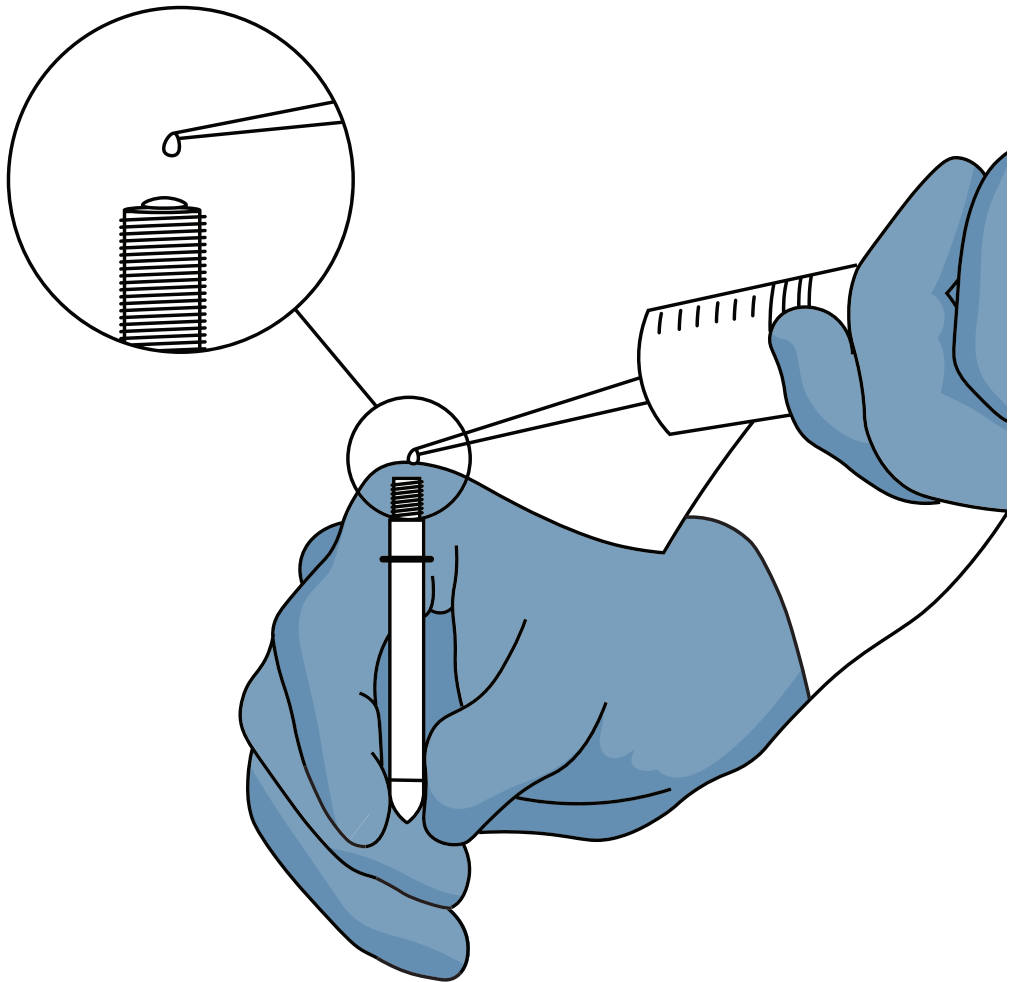

Figure 39 Water lens
- If needed, use the syringe filled with degassed water to build a water lens on top of the tensiometer shaft (Figure 39).